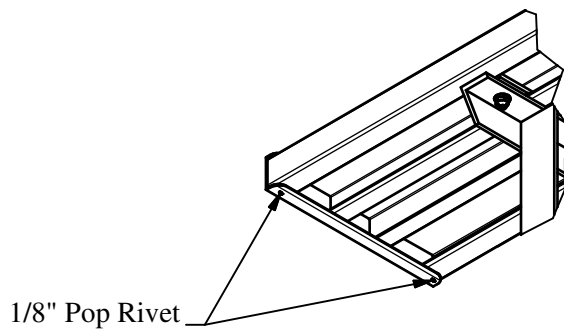

Figure 5
4. Install the end caps on each end of the seat planks, foot planks, and riser planks. Slide the end cap onto the plank with the holes on the underside of the plank. Using the holes in the end cap for a guide, drill a 1/8" hole and install the pop rivets to retain the end caps. See Figure 5.
10. Before tightening the seat plank bolts, align all the planks and make sure the planks are centered on the assembled frame. See Figure 5 for reference dimensions.